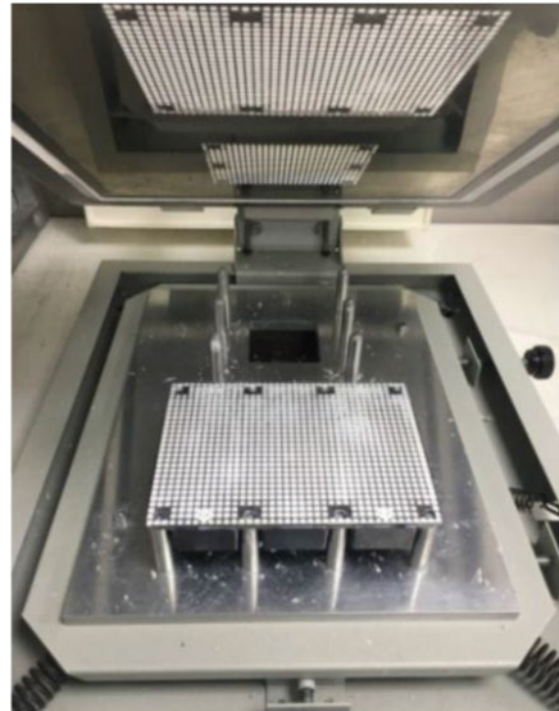

Figure 8 TIM stencil and screen press
- Stencil with screen press (Fig 8)